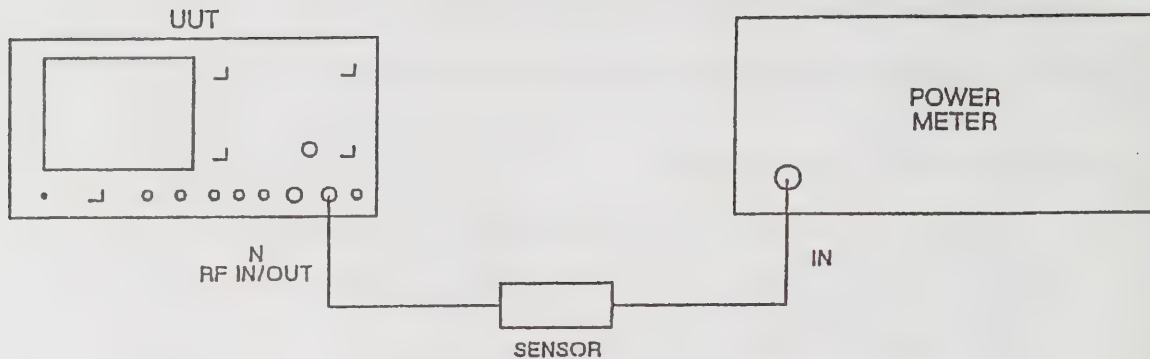

Fig. 3-11 Test equipment connections for adjusting R20 on AB6/1
- (1) Connect the equipment shown in Fig. 3-11 via the 6912 sensor.
- (2) Set the UUT to RECEIVER TEST, RF generator frequency 300 MHz, level -15.5 dBm, increment 1 dB, modulation off, N socket.